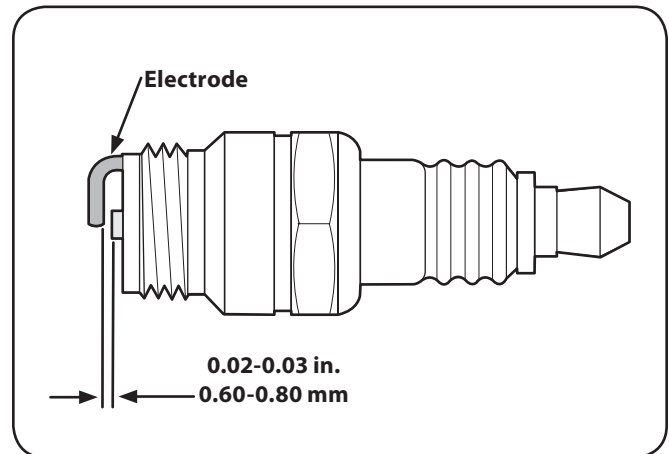

Figure 6-5
5. Measure the plug gap with a feeler gauge. Correct as necessary by bending side electrode. See Figure 6-5. The gap should be set to 0.030 in. (0.76mm).